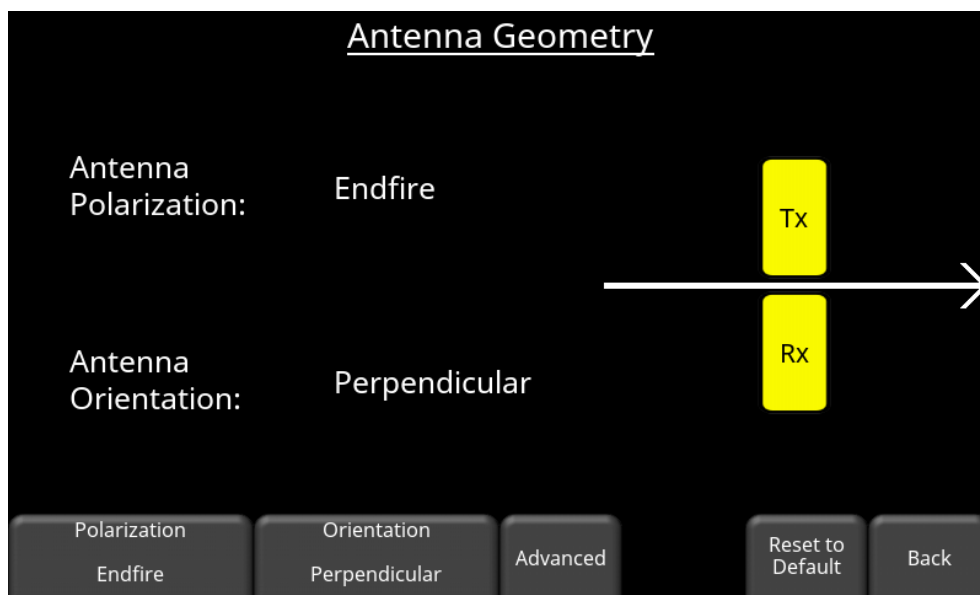

Figure 6-26: Antenna Geometry is Endfire Perpendicular
- **Endfire** has the antennas in a line (Figure 6-26). This is sometimes used for larger antennas where space is a consideration.